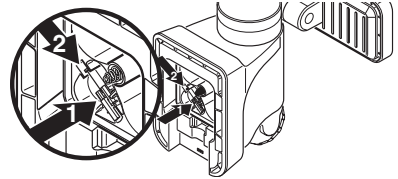

Figure 5
- Gently press down on the wiring harness as shown by arrow 1 (see Figure 5).
- Slide the mail connector into the female connector as shown in arrow 2 (see Figure 5).